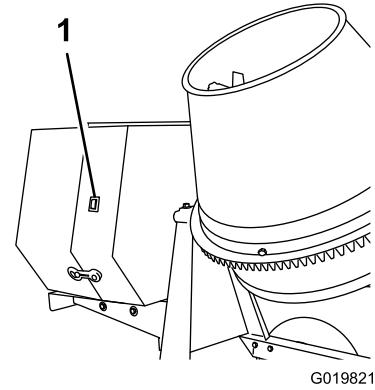

Figure 37
1. On the engine cowl, move the engine switch to the On position (Figure 37).
2. Turn the cowl-mounted engine switch off (Figure 37).
Important: If you need to stop the engine immediately, use the engine switch located on the outside of the engine cowl (Figure 37).